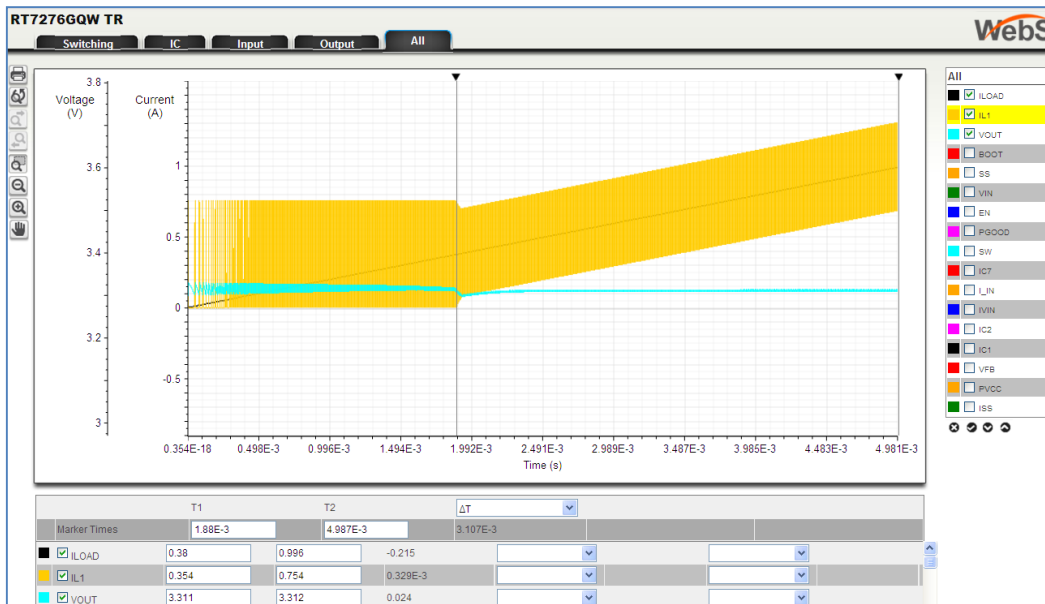

Figure 4 : RT7276GQW with Gradual load increase shows where Discontinuous mode changes to Continuous Mode
1. In parts that have Discontinuous Operation Mode, it is sometimes good to know at what load current the part will switch from Discontinuous Mode to Continuous Mode. To check this, set the load start current at 10mA, pulse current at 1A, and increase the rise time to 5msec. Run the Transient simulation at 5msec time scale. Then select the ALL waveform window, de-select all waveforms and then select I-LOAD, I-L1 and VOUT. Zoom the VOUT scale as needed, and re-zoom the current scale by clicking the vertical current axis and changing the unit from A to mA. Figure 4 shows the simulation result for RT7276GQW 12V – 3.3V / 2A application with a slowly increasing load. Use the cursor to select the area where the inductor current changes. The cursor readout will display the load where mode change occurs.